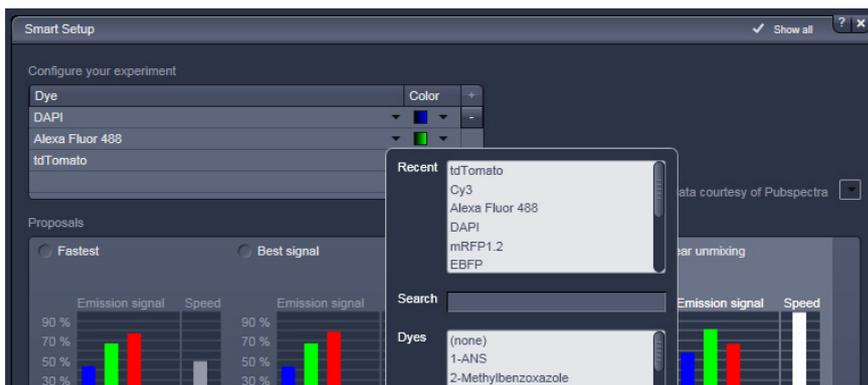

Fig. 46 Configure your experiment
- Simply choose the dye(s) used from the list dialog, and assign signal display color(s), see also Fig. 46.